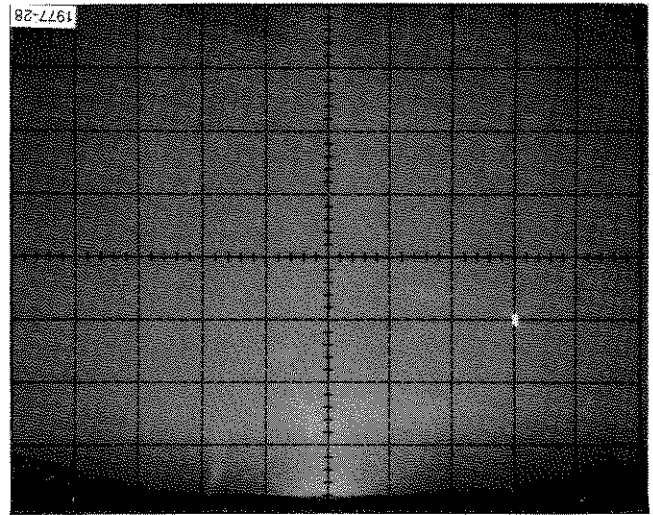

Fig. C-10. Display of output sink current.
- b. The 1-division of vertical deflection in Fig. C-10 shows that the device used for this test had an output sink current of 50  $\mu$ A, about the middle of the specified range (10 to 80  $\mu$ A).